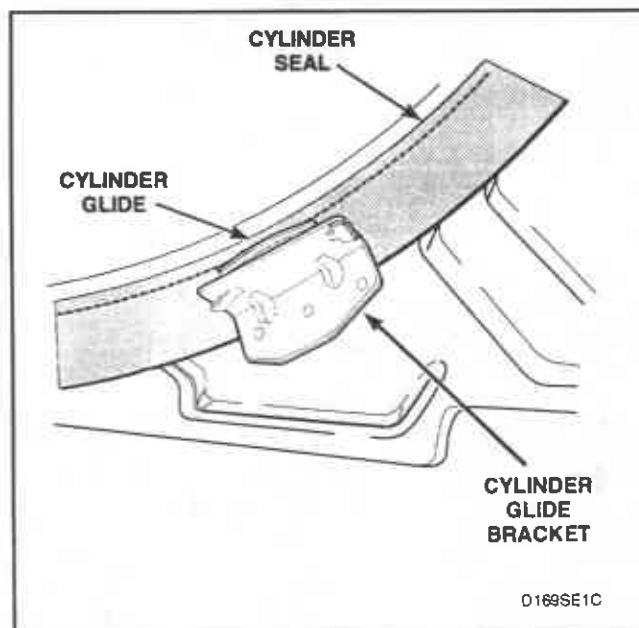

Figure 38
- Cylinder Glides and Glide Bracket** (Refer to *Figure 38*.)